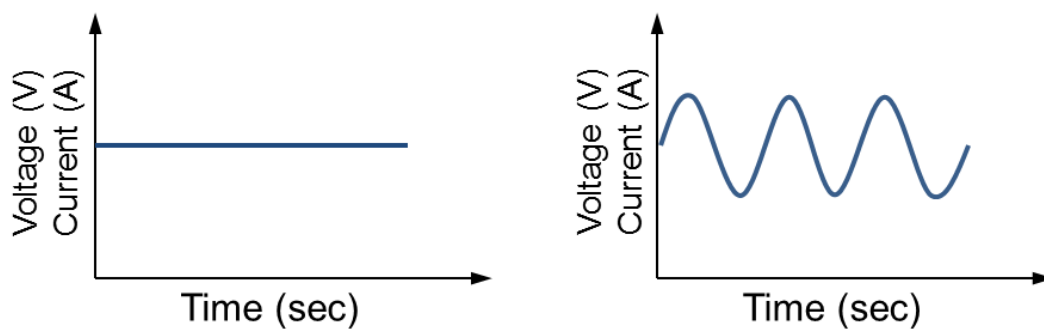

Figure 2. AC/DC signals in relation to time
As is shown in Figure 2, there are two types of power supply: direct current (DC) and alternating current (AC). The current and voltage of direct current always stay constant. They would not vary with time. The current and voltage of alternating current would vary cyclically with time. Thus, the circuit would act differently when you supply these two kinds of power source.